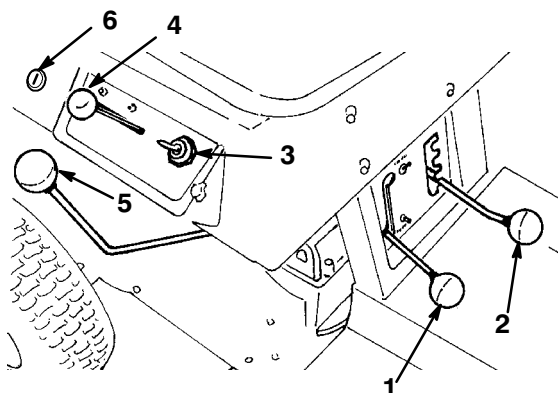

Figure 7
The transaxle has five forward speeds, neutral, and reverse. The gear shift lever is located at the right side of the operator (Fig. 7). An interlock switch prevents the engine from being started when the transaxle is in any gear except neutral.
The deck engagement lever (PTO) (Fig. 7) engages and disengages the cutter blade. An interlock switch prevents the engine from starting when the control is in the Engage position. The engine will start when the control is in the Disengage position only.
The throttle control (Fig. 7) connects to and operates carburetor mounted throttle and choke. The control has four positions: Idle, Hot Restart, Operate, and Choke. Push the control slightly to the left and upward to obtain the Choke position.
Turn and release the KeyChoice switch (Fig. 7) to deactivate the operating-in-reverse interlock feature.
The ignition switch (Fig. 7) has three positions: Off, On, and Start. The key automatically returns to the On position from the Start position when it is released after the engine starts.
The height-of-cut control (Fig. 7) varies the cutting height from approximately 1-1/2 to 3-1/2 inches (38 to 89 mm) in five increments.
2. Move the throttle control to the Choke position (Fig. 7) when starting a cold engine. When starting a hot engine, move the throttle control to the Fast position.
3. Rotate the ignition key (Fig. 7) to Start. When the engine starts, release the key and move the throttle between the Fast and Slow positions if the choke was used for starting. Operate the tractor with the throttle control in the Fast (full throttle) position for best performance.